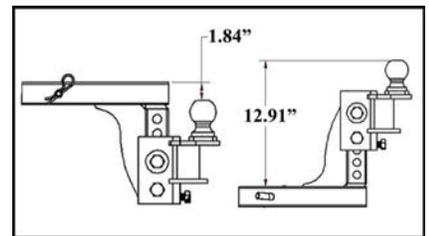

Figure 2: Hitch bar can be used in the raised or dropped position.
- Insert the hitch bar (2) into the hitch box and install a pull pin (3) and spring clip (4). Hitch bar (2) may be used in either the up or down position (see Figure 2).
•NOTE: The ball height should be greater than coupler height by approximately 3/4" to 1" (see Figure 2) to compensate for vehicle squat. For vehicles with air springs, air shocks or an automatic leveling system, check vehicle owner's manual. Unless otherwise specified make sure you adjust the ball mount and do the trailer set up with the trailer and vehicle loaded as they will be when towing. Raised balls usually have reduced load ratings. Ball rating MUST equal or exceed trailer GVWR.